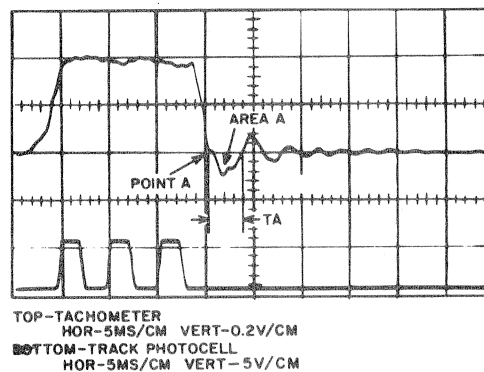

Figure 6-17. Tachometer Output (Forward Seek)
12. The forward stop pulse delay is the time between the trailing edge of the last track pulse and the leading edge of the stop pulse during a Forward seek. This delay times the dropping of the detent pawl with respect to the detent gear position. Figure 6-17 shows the tachometer output trace for a properly adjusted delay (point A is where the pawl should engage the gear and area A is the resulting carriage rebound caused by engagement). The pawl should not engage the gear before zero velocity is reached. The amplitude and duration of TA is primarily a function of the accuracy of the detent gear and the timing disk assembly. It is therefore necessary to inspect the operation at a minimum of three positions (approximately
- b. Adjust Y331 (D33) to make the trace approximate Figure 6-17, if required.
- e. If the optimum (Figure 6-17) tachometer output cannot be achieved, perform the procedures of step 14.